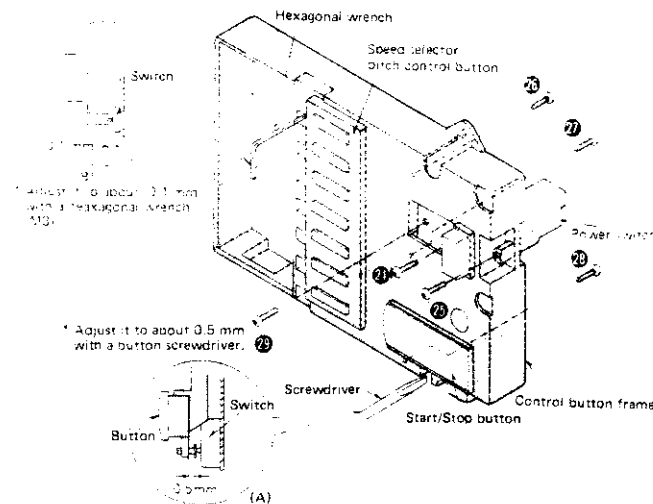

Fig. 5
3. Remove the setscrews ⑲ and ⑳ in Fig. 5 to remove the power switch.
4. Remove the setscrews ㉑ ~ ㉓ in Fig. 5 to remove the speed selector/pitch control button.
5. Remove the setscrews ㉔ in Fig. 5 to remove the start/stop button.
Note: The setscrews of the start/stop button and the speed selector/pitch control button are adjusted so that the screw tips slightly touch the buttons (to attain smooth switching). If further adjustment is needed, refer to Fig. 5 (A) and (B).
* For the speed selector and start/stop button screw adjustment refer to Fig. 5 on page 5.